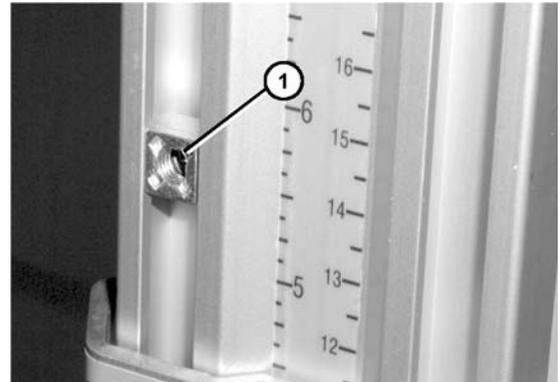

**Figure 10**
2. Attach controller (**Figure 10, item 1**) to conveyor with screws (**Figure 10, item 2**).